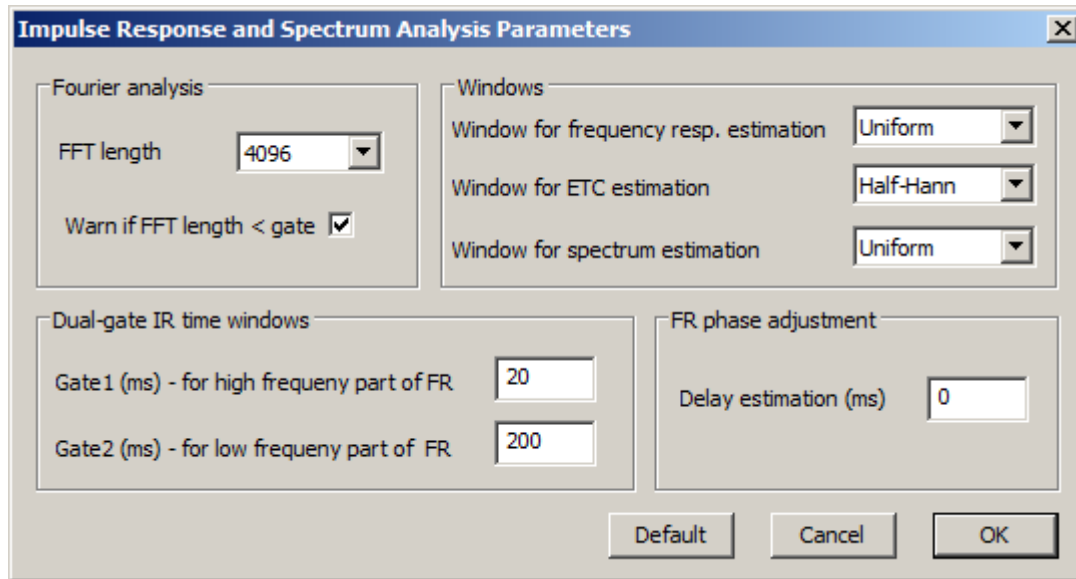

Figure 6.4 Dialog box for the impulse response and spectrum analysis setup
- **FFT length** – which is set in a control bar or in a dialog box ‘**Impulse Response and Spectrum Analysis parameters**’ that is opened by menu command **Setup->Analysis parameters** (see Fig. 6.4).
In a loudspeaker response analysis the *gate* is usually selected as a beginning part of the PIR, in which room wave reflections are being minimal. This is motivated by psycho-acoustical findings that our ear system suppresses reflections in the first 10-20 ms. The later reflections, at least up to 100 ms of delay, contribute to the sense of loudness. After that '*loudness summing time*' reflections again do not contribute to the loudness. This means that for the subjectively approved estimation of the loudspeaker frequency response that will correspond to our sense of loudspeaker tonal balance a dual gate system is needed. For reflection removal we need short time gate (*Gate1*), but from the time-bandwidth requirement it follows that use of *Gate1* invalidates the FR estimation on low frequencies. What we can do to get more acceptable response on low frequencies is to use a larger gate – *Gate2*. Following the loudness summation law, the *Gate2* would be set between 100 and 200ms. Both values, *Gate1* and *Gate2* sets user using dialog box '**Impulse response dialog setup**' that is shown in Fig. 6.4. If the marker is set, then cursor and marker determine *Gate1* as is the case in a single-gate analysis.
- *Single-gated frequency response* – is obtained by applying the DFT to the arbitrary chosen part of the IR, called *gate*. User sets the gate as a region between the cursor and the marker. If the gate is not determined by the marker, the gate is automatically set to the length of DFT block starting from the cursor position. The length of the DFT block is set by the user in the Toolbar box or in the dialog box **'Impulse Response Analysis Setup'** shown in Fig. 6.4.